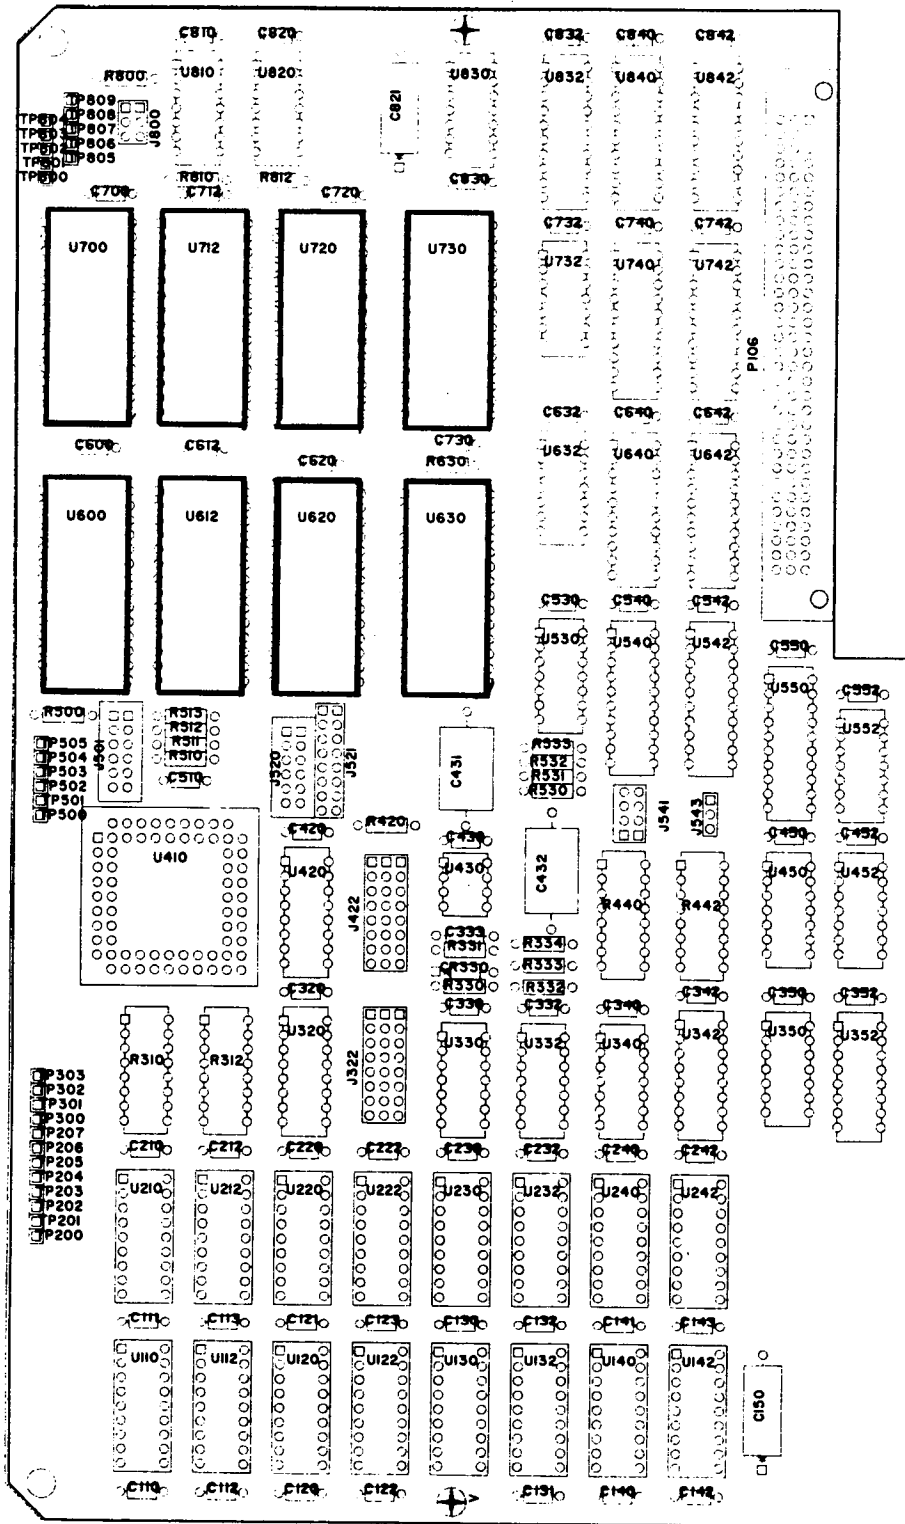

Figure 2 - Memory Circuit Board A18.
- ( ) 4. Remove the Memory circuit board A18 from the card cage. The Memory circuit board is located near the outside of the instrument. Replace the following microcircuits with the new microcircuits provided in this kit: (refer to Figure 2 for component locations).